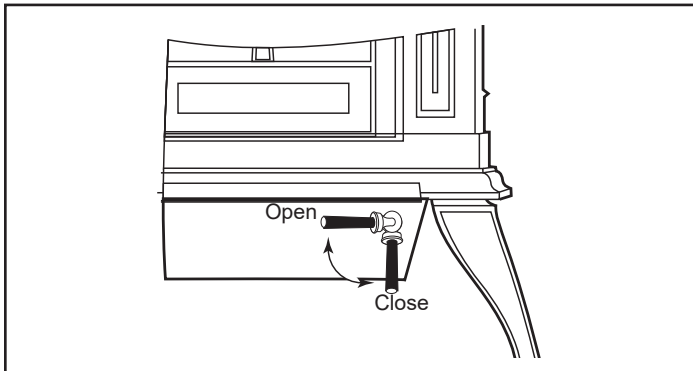

Figure 2.9- Turn the ashdoor handle clockwise to open and counterclockwise to close.
- Close the griddle or doors, and unlatch the ash door. (Figure 2.9) It will pivot, swinging the ash pan out of the stove.